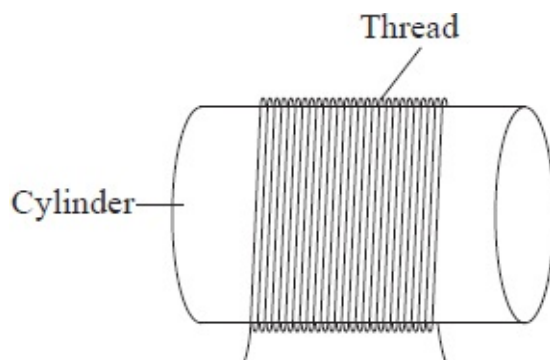

Fig. 2.5: Estimating the circumference of a cylinder
- Closely wrap a thin thread 10 times around a cylinder, as shown in figure 2.5.